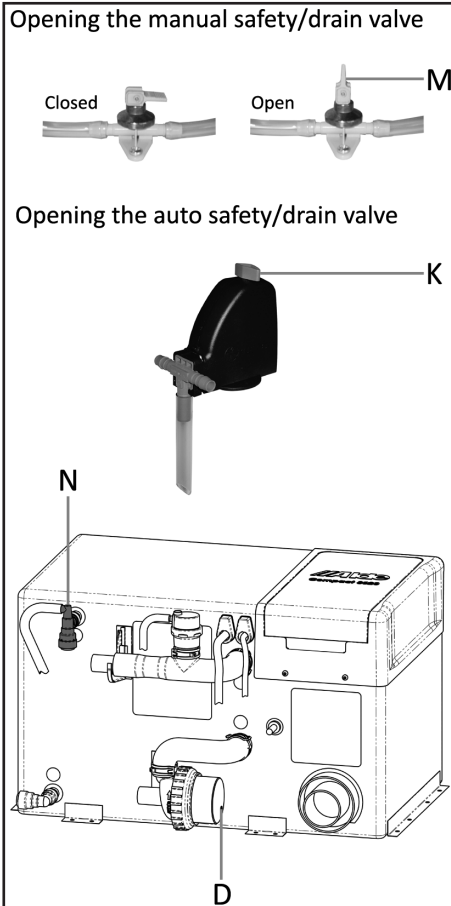

Fig.1
3. Open the safety/drain valve by lifting the yellow tab (Fig.1 [M]) or by turning the blue knob (Fig 1.[K]) 90°.
Check that the breather valve (Fig.1 [N]) is allowing air to enter the hot water cylinder when it is being drained, and that the clear plastic hose is not obstructed.
- Set the 12v inline circulation pump on the side of the boiler to speed 5 (Fig.1 [D]): see page 62, by turning the blue speed dial clockwise, on the face of the pump motor. NB: Speed is not adjustable if using the 12v circulation pump fitted in the expansion tank.